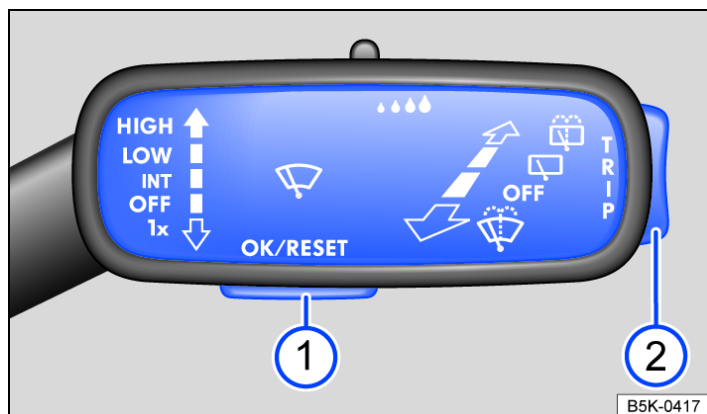

Fig. 1 On the right of the steering column: buttons on the wiper lever (illustration).
If any priority 1 warning messages are displayed, you will be unable to open any menus. Some warnings can be confirmed and switched off with the → Fig. 1 (1) button.